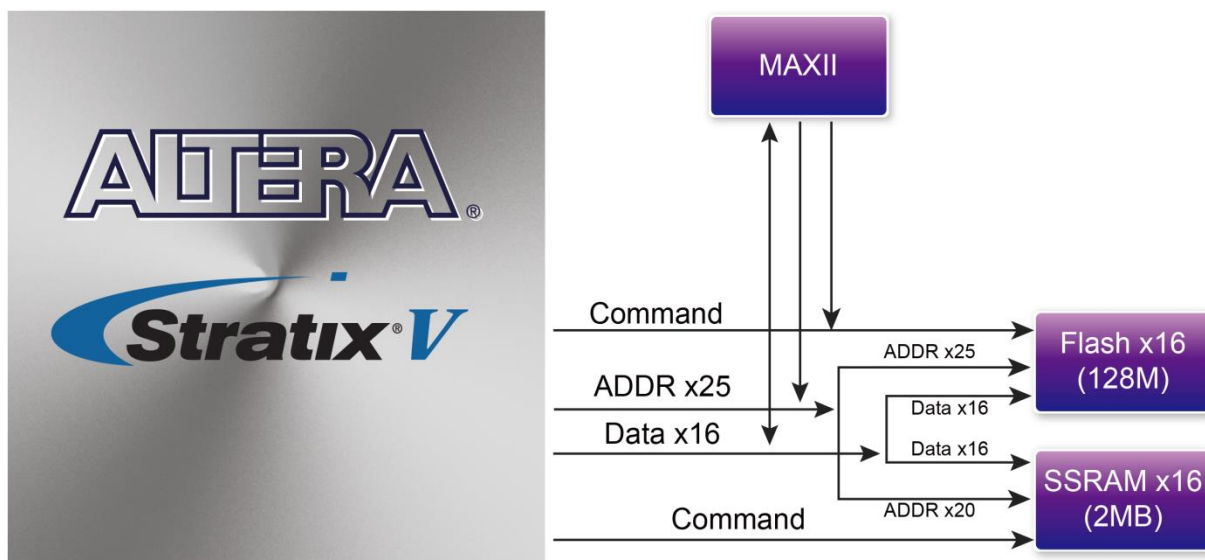

Figure 2-11 Connection between the Flash, Max and Stratix V GX FPGA
The flash has a 16-bit data bus and allow for FPP x16 configuration. This device is part of the shared flash and MAX (FM) bus, which connects to the flash memory and MAX II CPLD (EPM2210) System Controller. The SSRAM also has a 16-bit data bus and share address and data bus with the flash. **Figure 2-11** shows the connections between the Flash, SSRAM, MAX and Stratix V GX FPGA.